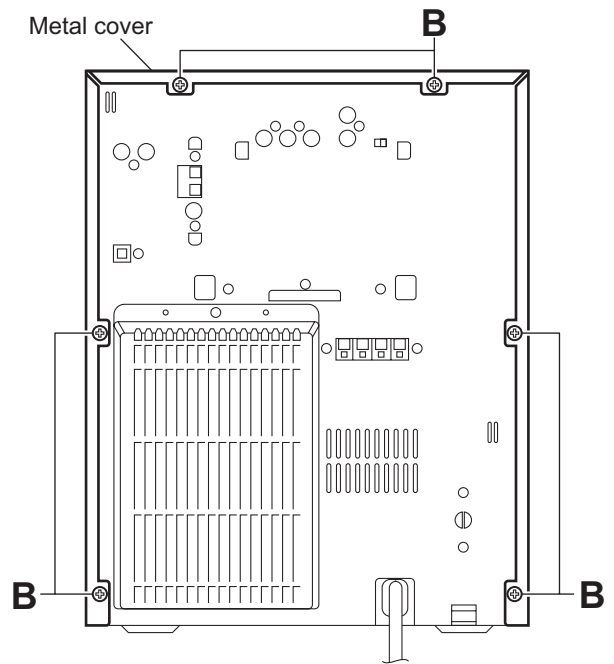

Fig.3
- (2) From the back side of the main body, remove the six screws **B** attaching the metal cover. (See Fig.3.)